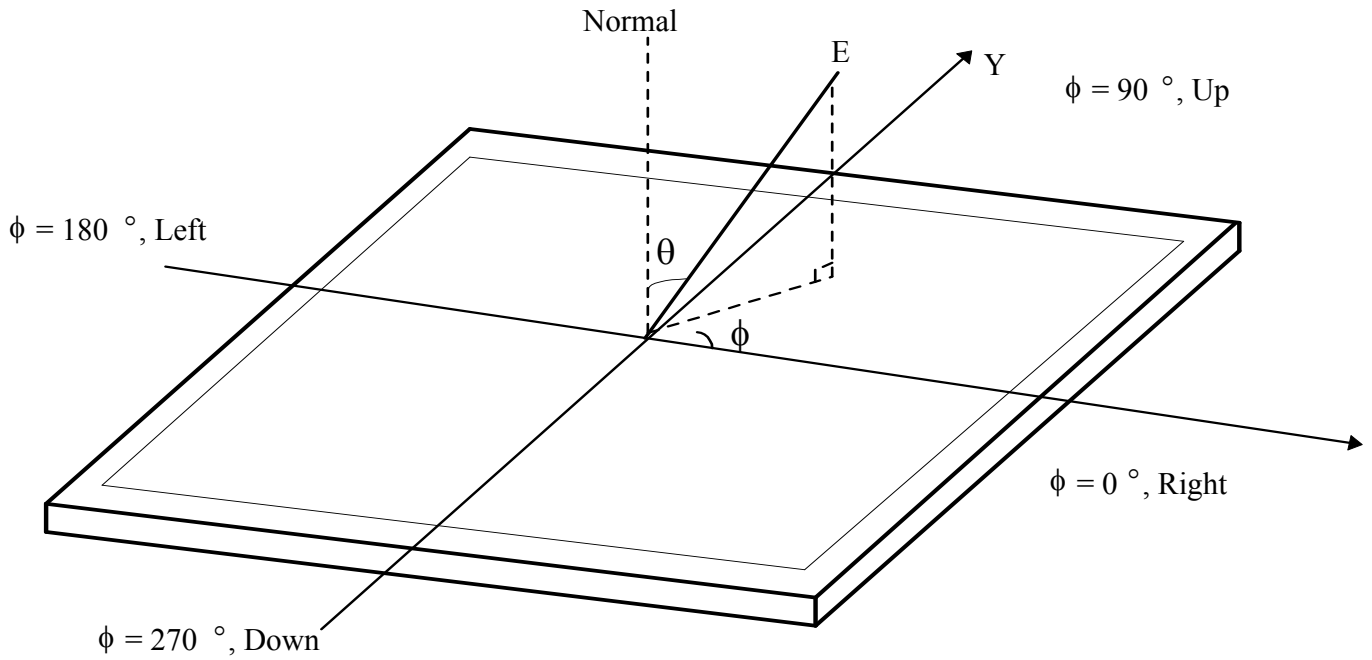

FIG. 4 Viewing angle
6. Viewing angle is the angle at which the contrast ratio is greater than 10. The angles are determined for the horizontal or x axis and the vertical or y axis with respect to the z axis which is normal to the LCD module surface. For more information, see the FIG. 4.